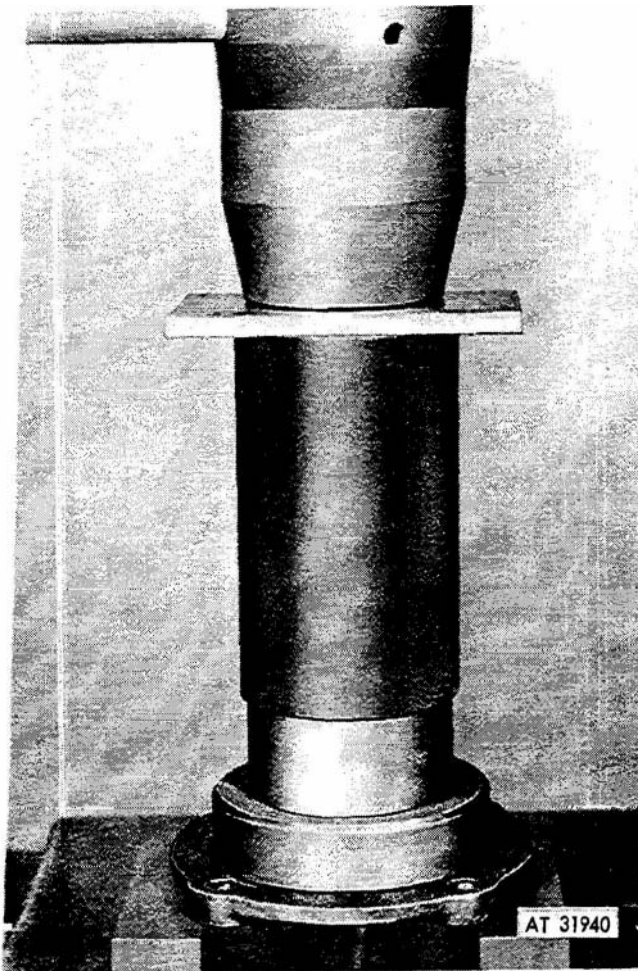

Figure 3-144. Pressing seals from thru-shaft retainer.
(12) Remove sleeve (12, figure 3-141) from differential housing (15). Press seal (5) from retainer (8) as shown in figure 3-144.